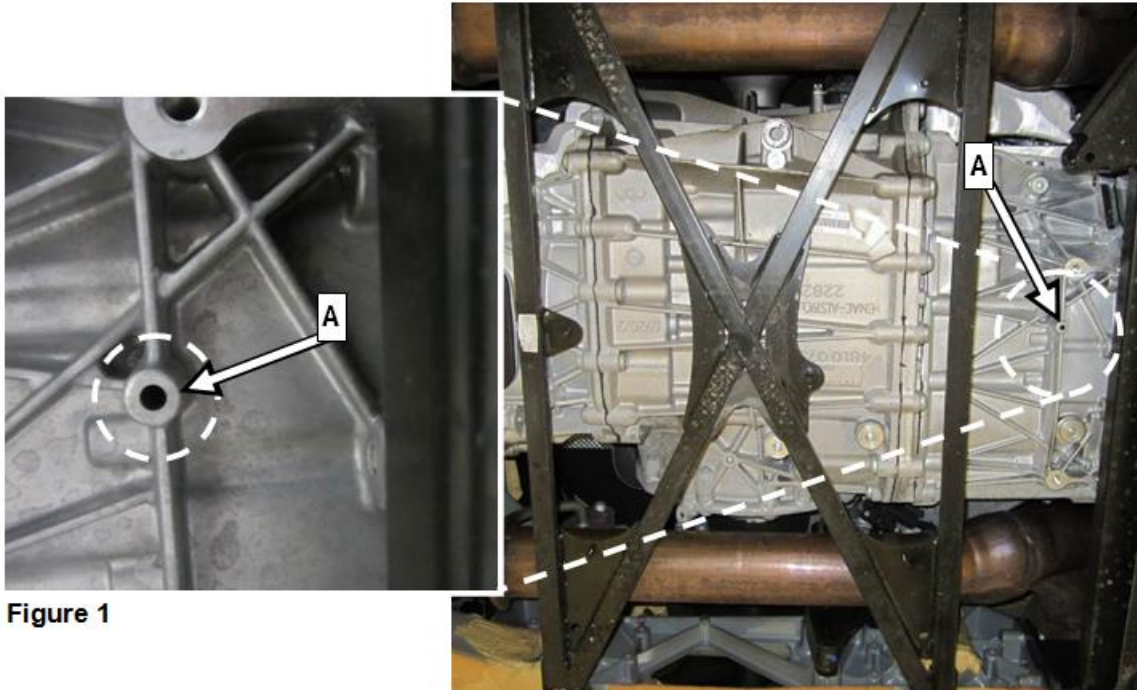

Figure 1
2.  Check ventilation bore (A, Figure 1) at bottom side of transmission for leaks.